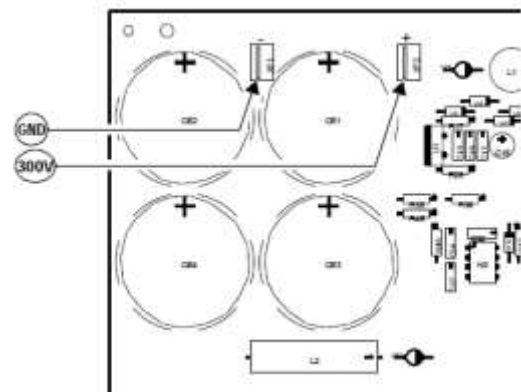

Fig. 10
3. Verify, with a voltmeter, the presence of 300V DC (output voltage of rectifier bridge on electronic inverter circuit board) between points XF-1 and XF-2 of Fig.10; with this reading, the electronic inverter circuit is correctly fed but it does not work.